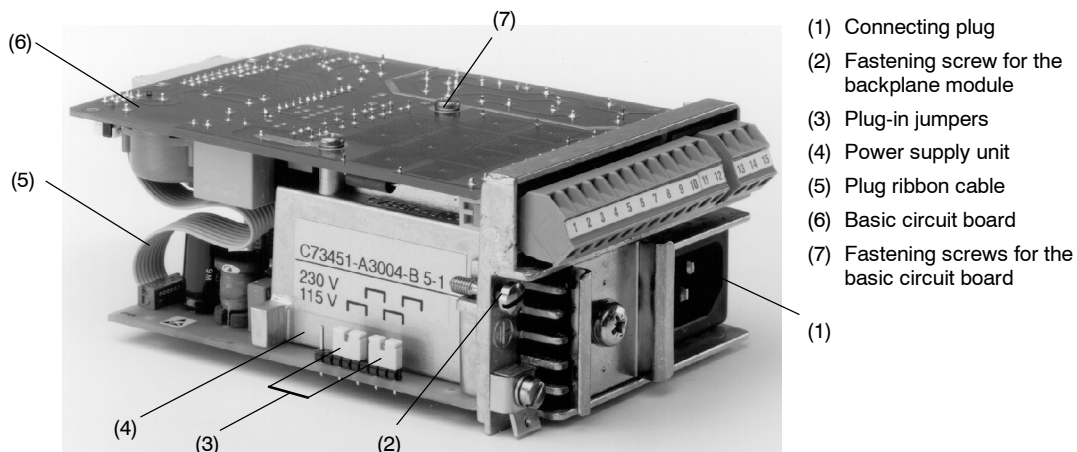

Figure 8-2 Backplane module
- Loosen the fastening screw of the backplane module (see (2) 8-2) and pull out the module
- Pull out the ribbon cable plug (see (5) figure 8-2)
- Loosen the fastening screw of the basic circuit board (see (7) fig. 8-2).
(Pay attention to correct plugging of jumpers (see (3) figure 8-2))